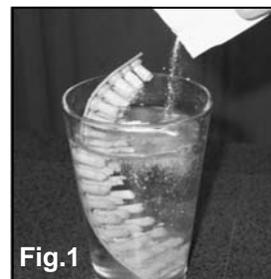

Fig.1
1. Immerse the Brush in Cleaning Solution as shown in **Fig.1**.